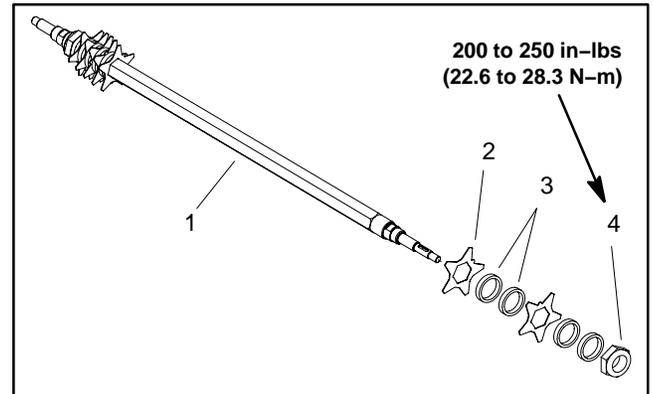

Figure 10
Disassembly (Fig. 10)
2. Remove lock nut from either end of the shaft (Fig. 10).
Assembly (Fig. 10)
1. Start by placing two spacers against a lock nut installed on one end of groomer shaft. Then, place first blade against spacers (Fig. 10).
2. For 1/2 inch (1.3 cm) spacing, make sure there are two spacers between blades (Fig. 10).